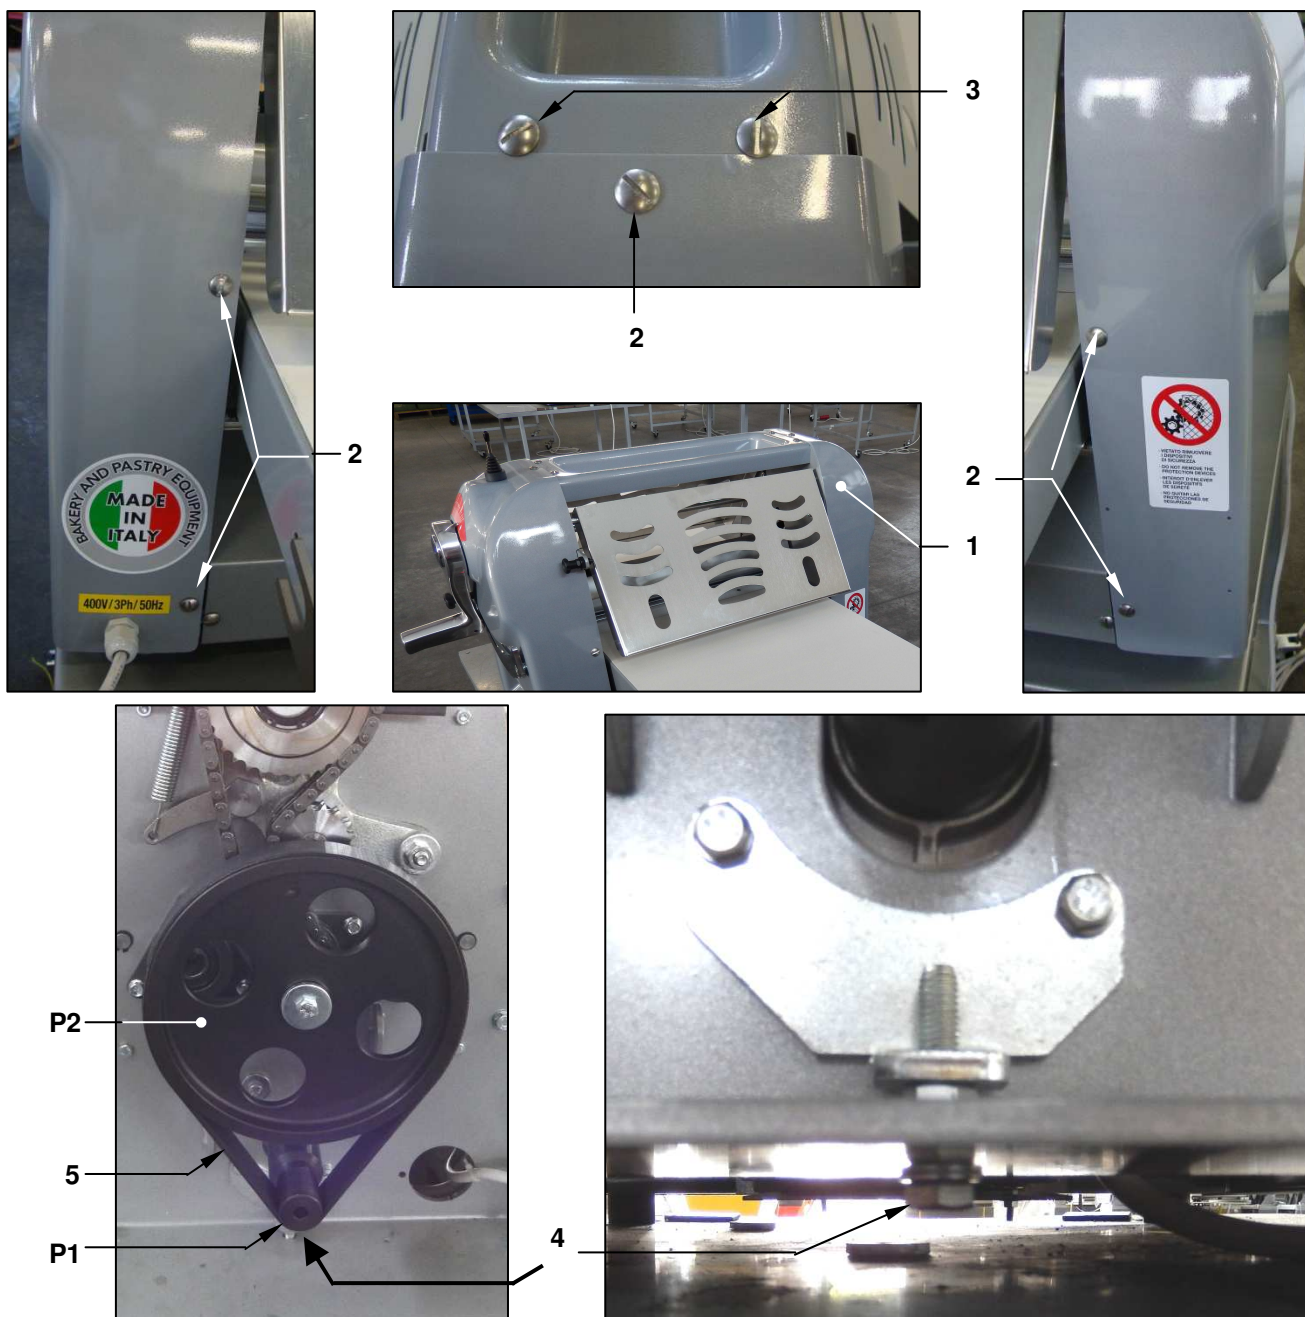

Figure 30 - Mod. SF450: adjusting the tension of the drive belt
With reference to Figure 30, to adjust the tension of the drive belt ref. 5:
- remove the guard ref. 1 on the side opposite the controls. To do this you must remove the five screws ref. 2 and loosen the two screws ref. 3 just enough to remove the guard. Place the guard in safe place and in a stable position.
- using an open end spanner, turn the screw ref. 4 until the tension of the belt ref. 5 is correct. In this case consider:  $A = 2,1 \text{ mm}$   $T = 26,4 \text{ N}$  (60 Hz)  $T = 26,5$  (50 Hz) (for T see section 4.3.1)
- when finished, replace the guard ref. 1 making sure that its upper edge is placed under the heads of the screws ref. 3 and then insert and tighten the screws ref. 2. Lastly, tighten the screws ref. 3 so that their heads compress the edge of the guard ref. 1.